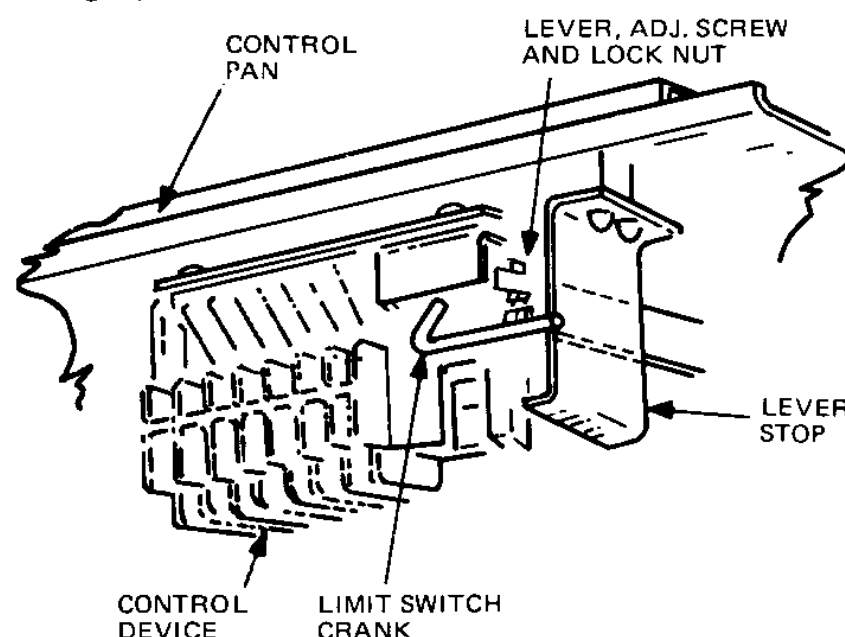

Fig. 8A—Control Relay
1. Turn in adjusting screw (1) until contacts of switch (2) "break" as indicated by an audible click or check with bell ringer.
5.8 CONTROL RELAY ADJUSTMENT (See Fig. 8A)